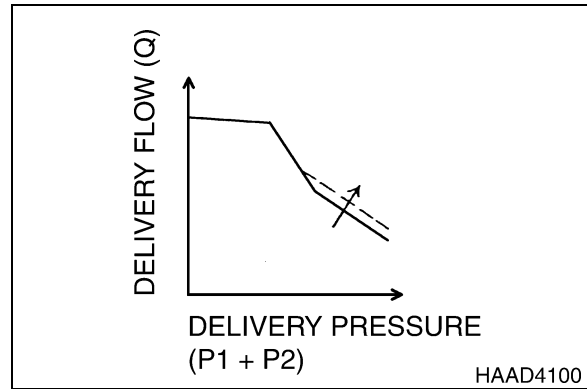

Figure 28
Adjust it by loosening the hexagon nut (801) and by tightening (or loosening) the adjusting screw CI (925). Tightening the screw increases the flow and then the input horsepower as shown in the Figure 28.